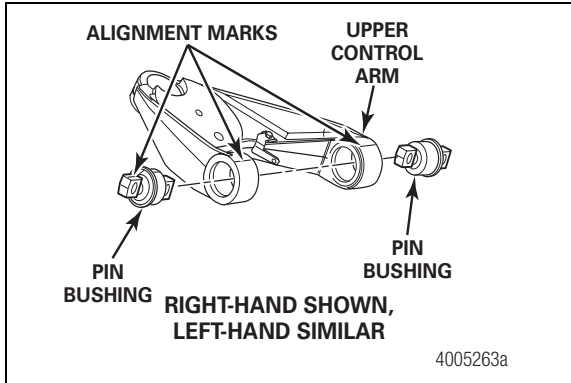
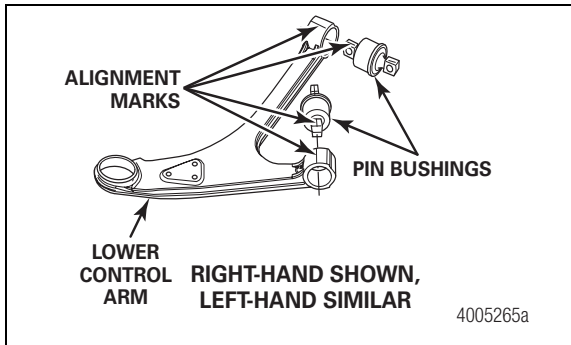

Figure 5.13
Figure 5.14
1. Remove the snap ring from the outer bushing bore. Figure 5.13 and Figure 5.14.